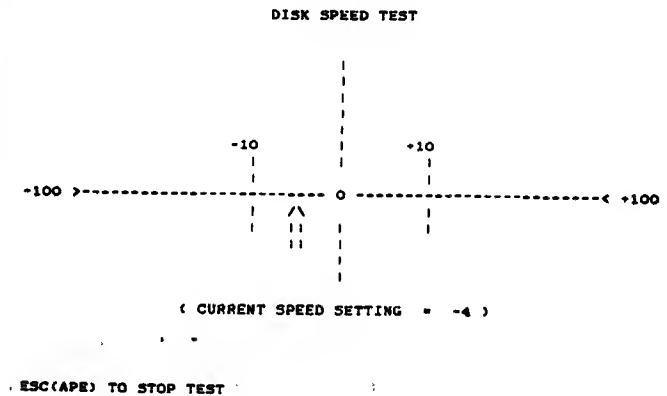

Fig. 5-18. Sample disk speed test screen display.
7. Most speed test programs display a graduated scale of the sort shown in Fig. 5-18. Using a jeweler's screwdriver, slowly turn the speed control adjustment pot screw until the speed display shows the actual rotation time as close to the ZERO reference, or 300 RPM point, as possible. (The best position is just under or to the left of the reference. This allows for creep as the system wears.)